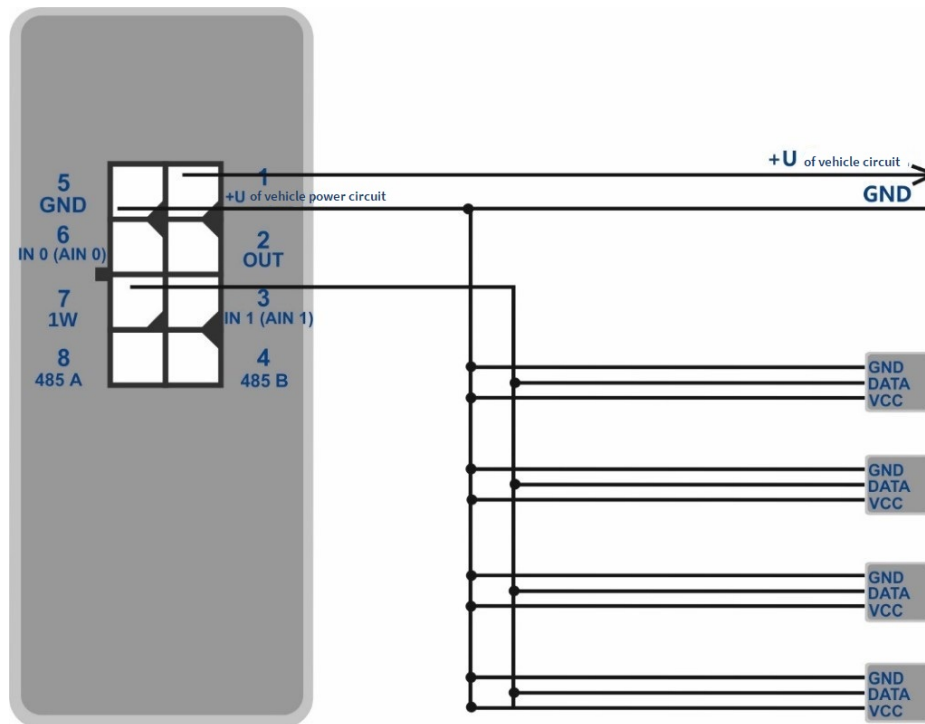

Figure 11 - Connection scheme of the sensors and iButton DS18B20 to CAN of 1-wire
- Connect temperature sensors to the 1-Wire bus using the scheme in figure 11;